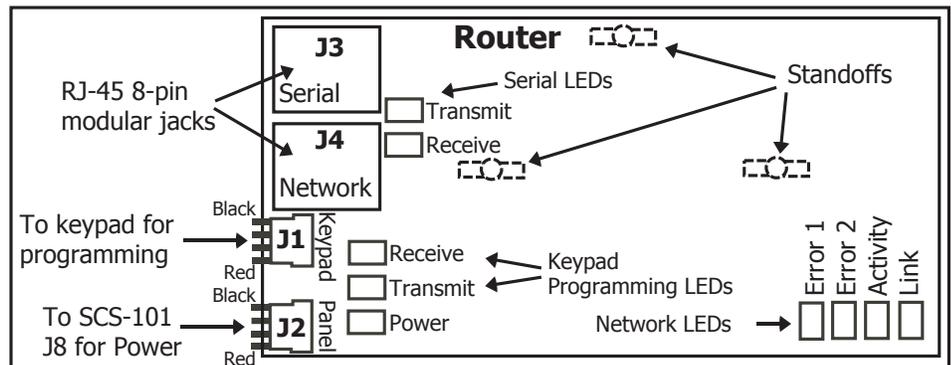

Figure 2: Router Board
1. Disconnect the 2-wire Power Cable from the SCS-101 Router J2 Power Connector. See Figure 2.